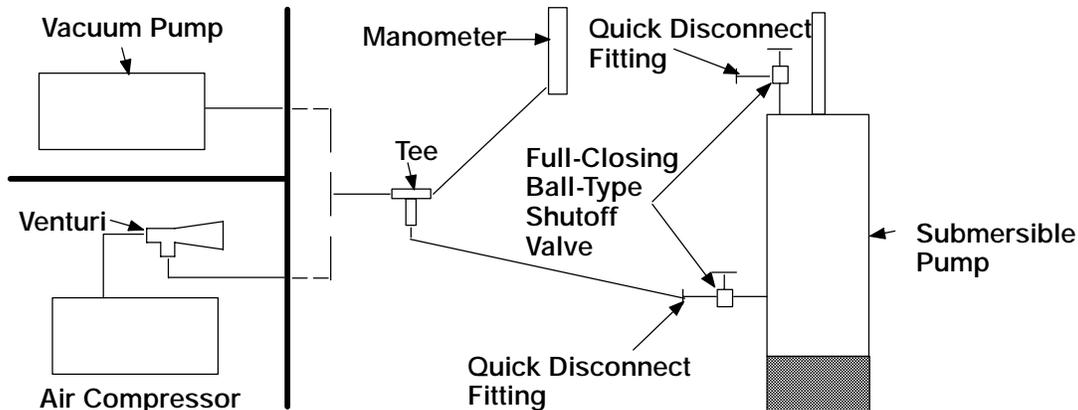

Figure C-8. Vacuum Test System
It is recommended that a vacuum pump be used to draw the vacuum on the cavities. If a vacuum pump is not available, a compressor/venturi system may be used, see Figure C-8.
See Figure C-8 and connect the vacuum pump or compressor/venturi system directly to the pump at the hole for the seal cavity drain plug (13).
Connect the vacuum pump or compressor/venturi system to the pump as shown in Figure C-8.
Figure C-8 shows a simple schematic for setting up either a vacuum pump or a venturi/compressor test system.